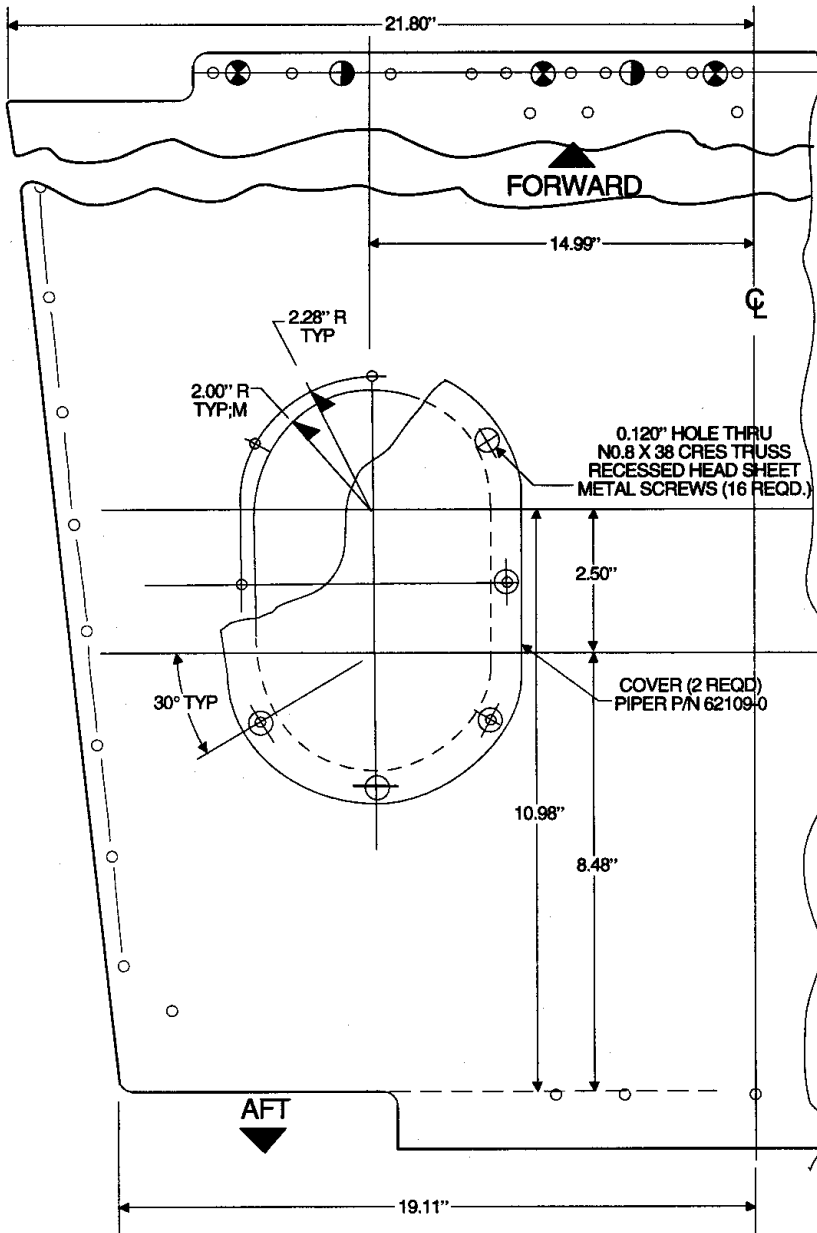

Figure 51-1a. Baggage Compartment Inspection Holes Cutout Details
b. Baggage Compartment Inspection Holes Fabrication Procedure. (Refer to Figure 51-1a.)
While Figure 51-1a shows the hole in the left side of the baggage compartment, a similar hole is also cut out in the right side baggage compartment floor. Installation will require two each inspection access covers, Piper P/N 62109-00.
(c) Determine and mark a reference center line running through baggage compartment. Refer to Figure 51-1a for measurements.
- (i) There should now be two ovals, like the one in Figure 51-1a, laid out on each side of the baggage compartment floor.